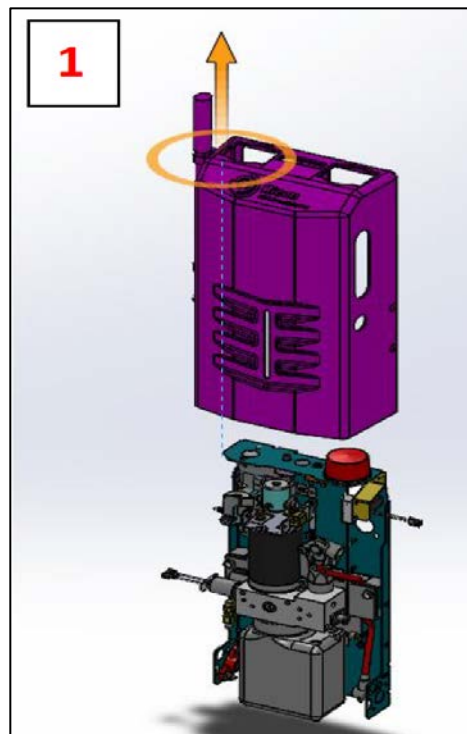

Figure 1: Remove Pump Cover
3. Remove the pump cover as shown in **Figure 1**.